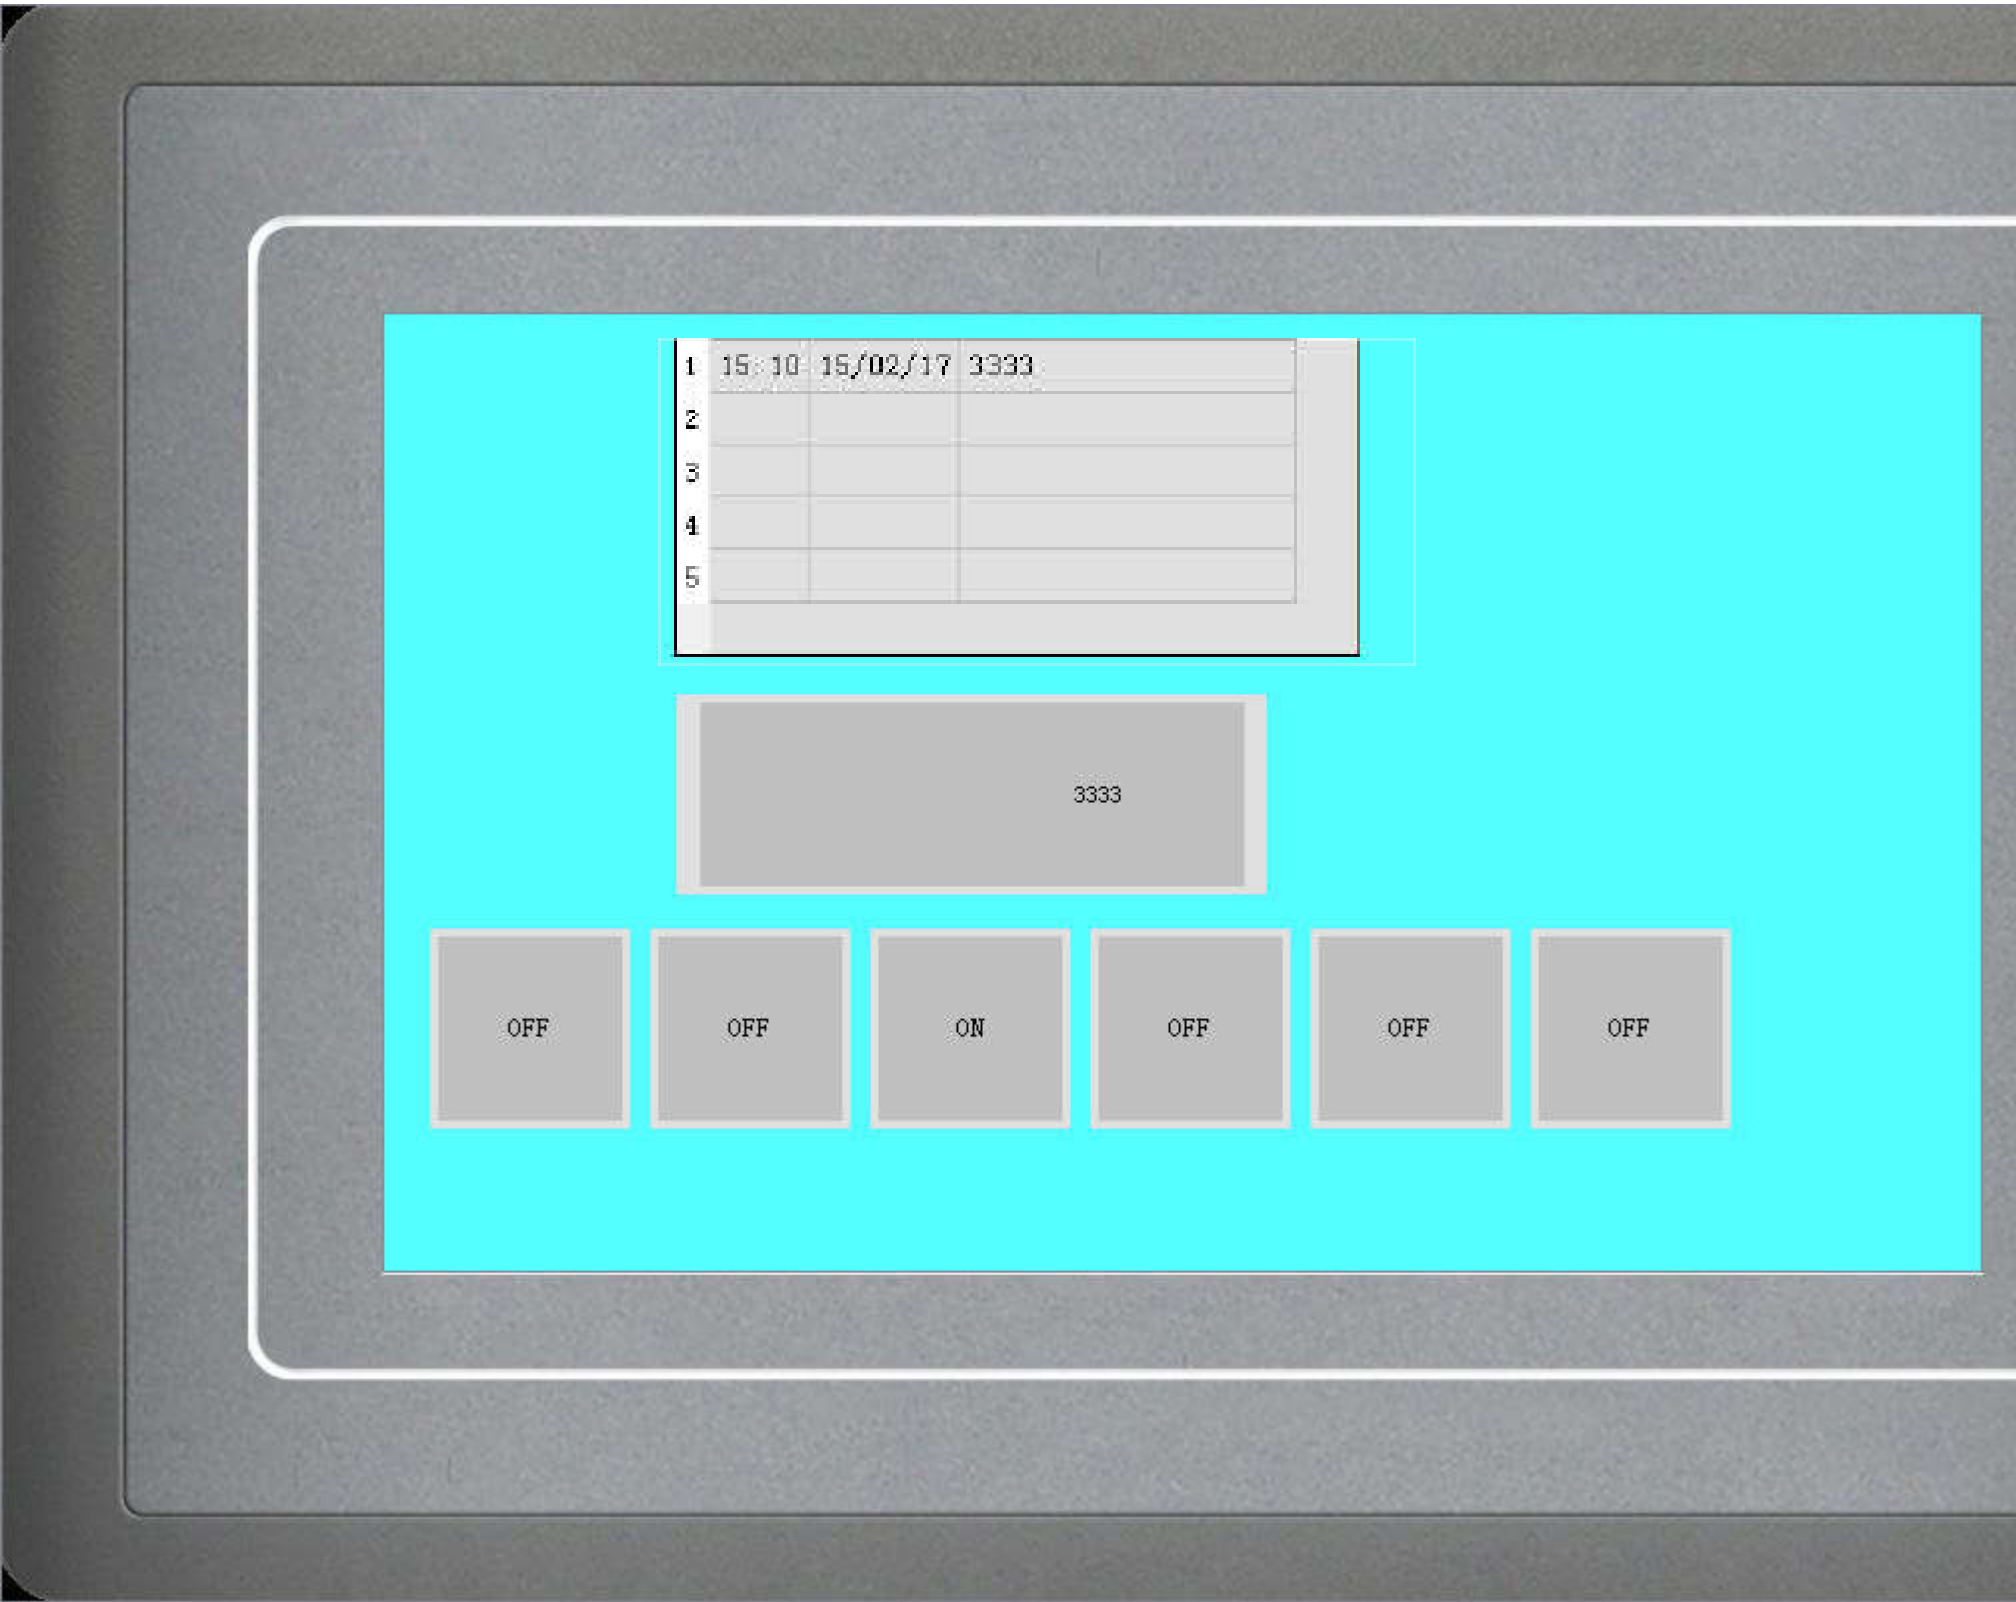

Figure 7-23      Offline simulation example of digit alarm
- Click an item in the list box, and then move the mouse to the right of the "Message" module; input text information in the “Text” edit box serving as the alarm content. Here assume that the alarm messages are as shown in Figure 7-23.
- OFF Alarm: When this option is selected, the alarm will be generated when the corresponding address value is 0 (OFF value). Otherwise, an alarm will be generated when the address value is 1 (ON value). By default, an alarm occurs when the address value is 1 (ON).
The following is an example of offline simulation as shown in Figure 7-23: